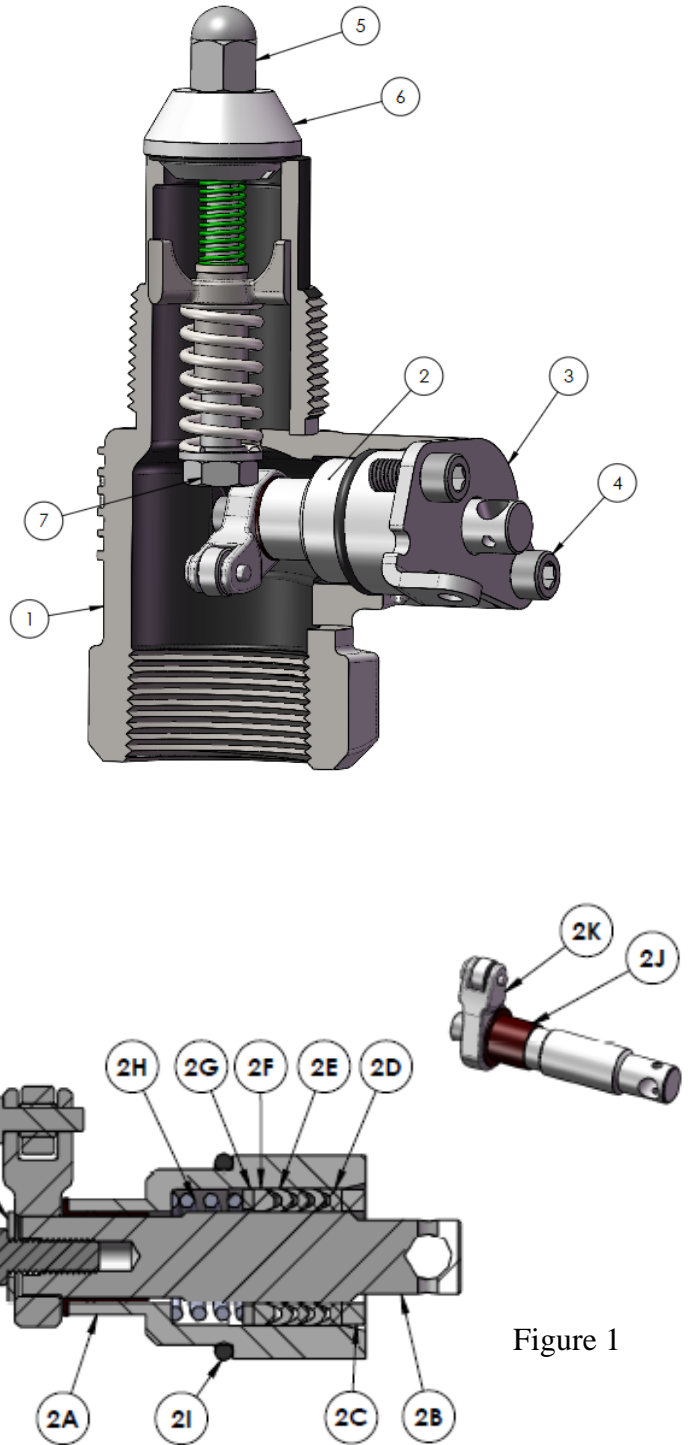

Figure 1
6. Apply Loctite #271 to threads of bonnet Stem [2B] and install Cam Assembly [2K], Cam Washer [2L], and Cam Screw [2M] on Bonnet Stem [2B] and tighten. Ensure that the Cam Assembly [2K] is installed as shown in Figure 1.
8. Install Packing Spring [2H], Packing Washer [2G], Male V-Packing [2F], (3) V-Packing [2E], Female V-Packing [2D], and Packing Spacer [2C] in gland [2A].
11. Apply Loctite #271 to threaded holes in Body [1] and install Packing Retainer [3]. Install (2) Socket Head Cap Screws [4] thru Packing Retainer [3] into Body [1].